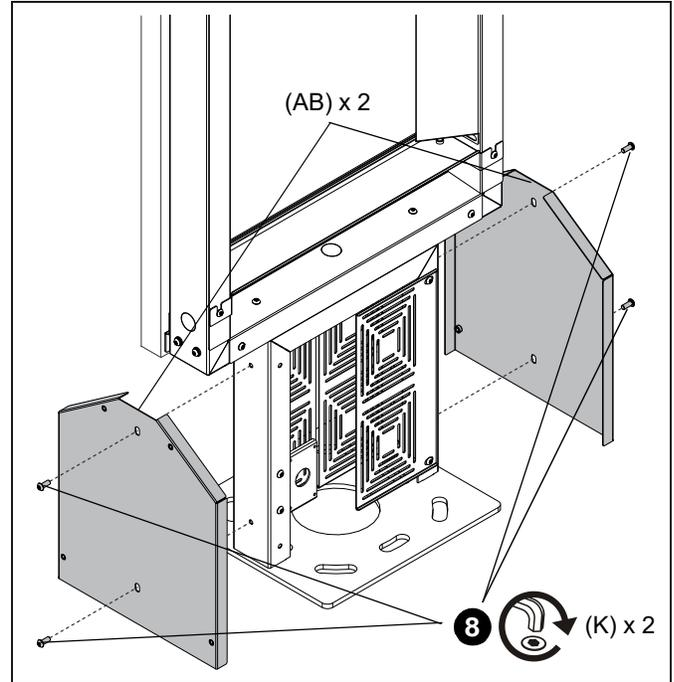

Figure 30
- Install two side covers (AB) to the sides of the base (AA) using four M8 x 20mm screws (L) (two per cover). (See Figure 30)